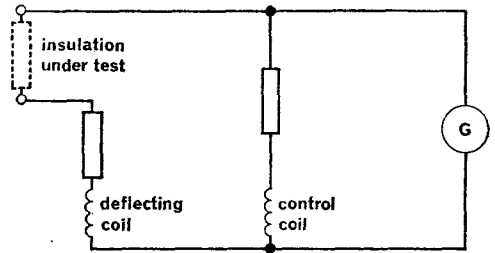

Fig. 9. Basic 'megger' circuit
18. **General.** Insulation testing is *not* simply a matter of measuring the resistance, in ohms, between two points that are not supposed to be connected. Under working conditions the insulation of an electrical installation is subjected to electrical stresses which can cause a reduction in the effective resistance between the points concerned. It is most important that similar conditions of stress are established during testing. Any ohmmeter used for measuring insulation resistance must have a power supply source with an output voltage at least equal to, and preferably greater than, the working voltage of the installation, circuit or component under test. Most practical insulation testers consist of a ratiometer type indicator connected through suitable resistors to a hand-driven generator. The generator output voltage for general purpose insulation testers is 250V, 500V or 1000V according to type. Low voltage generators are used in special 'safety ohmmeters' supplied for testing armament circuits. The basic circuit used in these meters is similar to that shown in figure 9.